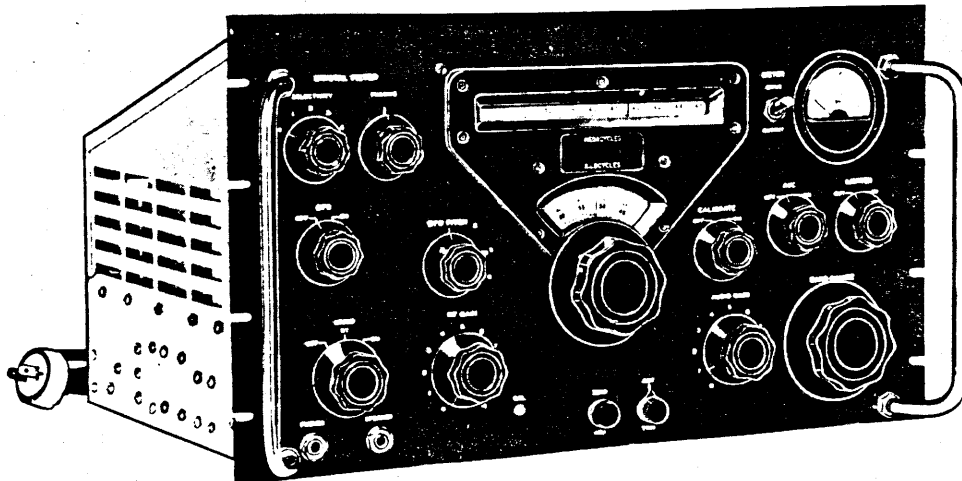

FIGURE 1. Sketch of the 51J-4
calibrator screwdriver adjustment. I do not know about the J-2. The J-3 and R-388 controls are identical to the J-4 except for the mechanical filter selector and R187 IF GAIN adjustment, a slotted shaft pot with lock nut mounted on the chassis beside the BFO shaft. The J-4 tubes are (2) 6AK5, (3) 6BE6, (8) 6BA6, (2) 12AX7, 12AU7, 6AQ5, 5V4, and OA2. The 51J series receivers weigh about 43 pounds without a cabinet, and require 10.5" high and 13.5" deep mounting space. The width is standard 19" rack mount. A front panel artist's sketch, front panel line drawing, and block diagram are provided in Figures 1, 2, and 3.